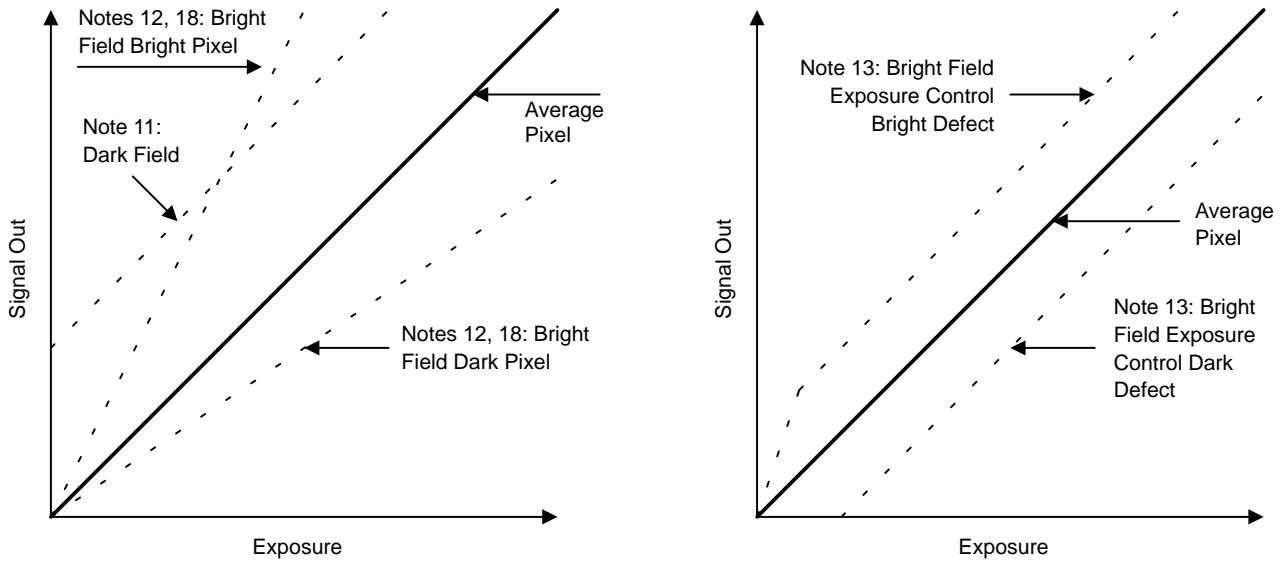

Figure 11. Defect Pixel Classification
| Exposure Control Defects, Chroma Channels | Exp Def | – | – | 64 | Allowed | 10, 13, 20 Figure 11 | Die ²¹ |
| Exposure Control Defects, Luma Channels | Exp Def | – | – | 128 | Allowed | 13, 20 Figure 11 | Die ²¹ |
11. Pixels whose response is greater than the average response by the specified threshold, (16 mV). See Figure 11.
12. Pixels whose response is greater or less than the average response by the specified threshold, (±15%). See Figure 11.
13. Pixels whose response deviates from the average pixel response by the specified threshold, (4.5 mV for Chroma, 5.5 mV for Luma), when operating in exposure control mode with an integration time that is 50% of the line time. See Figure 11. If dark pattern correction is used with exposure control, the dark pattern acquisition should be completed with exposure control actuated. Dark current tends to suppress the magnitude of these defects as observed in typical applications, hence line rate changes may affect perceived defect magnitude. Measured at 1 MHz data rate.
18. Pixels whose response is greater or less than the average response by the specified threshold, (±10%). See Figure 11.